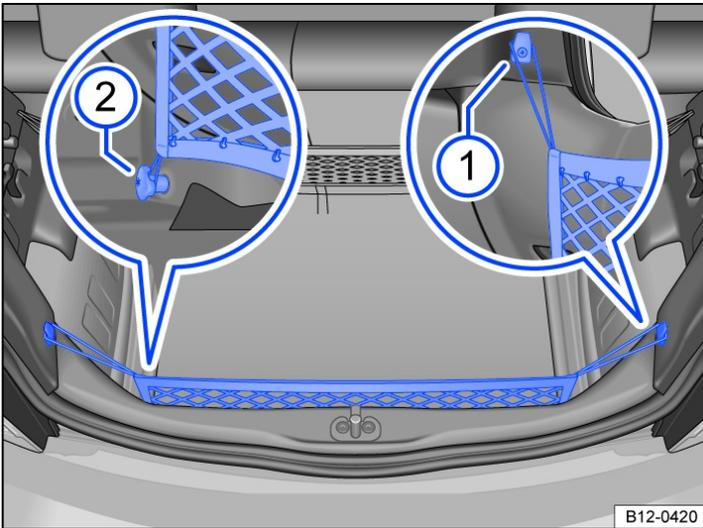

Fig. 2 In the luggage compartment: luggage net hooked onto the load sill.
- Attach the upper loops of the luggage net at the luggage net hooks \rightarrow Fig. 2 ¹ (close-up) \rightarrow ⚠.